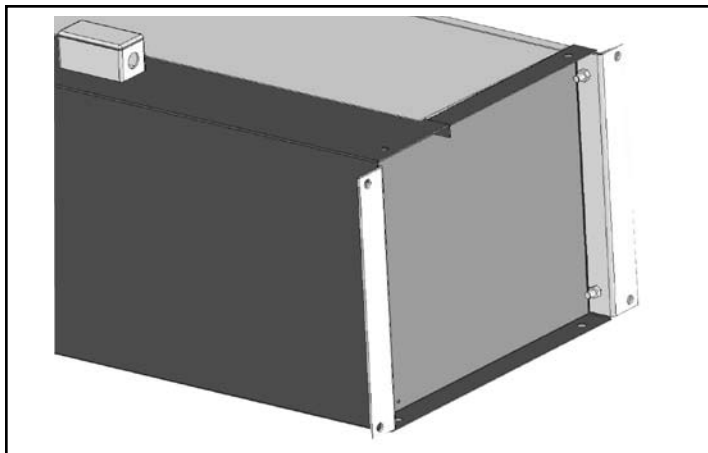

FIGURE 5 - Floor Mounting Brackets
- C. To vertically mount a VSA/VSB unit using optional Floor Mounting Brackets, bolt brackets on the inside of the endplate with (4) $\frac{1}{2}$ - 13 bolts as shown in **Figure 5**.